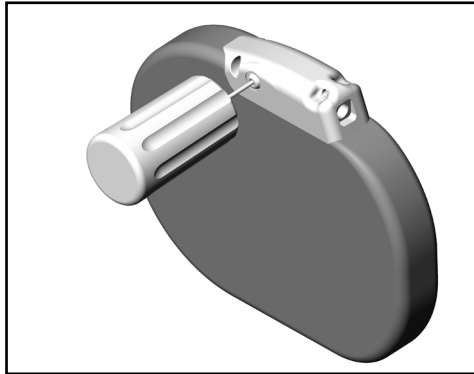

Figure 16: *Inserting the torque wrench*
2. Gently insert the torque wrench blade into the setscrew by passing it through the preslit, center depression of the seal plug at a 90° angle (*Figure 16*). This will open up the seal plug, relieving any potential pressure build-up from the connector port by providing a pathway to release trapped fluid or air.